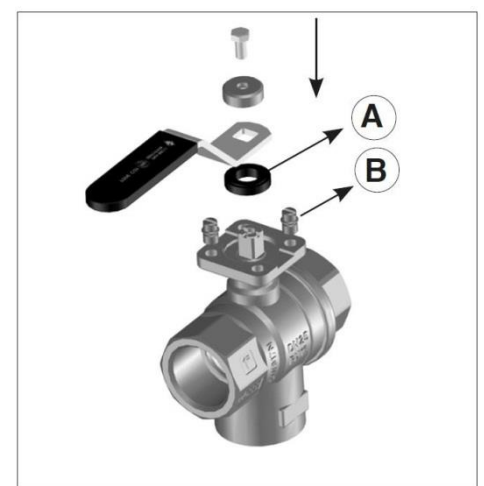

FIG. 3
- The ability to install the control lever in various positions (fig. 3) allows the flow to be diverted to achieve the various configurations shown in the diagrams below.
- Position the anti-friction seal (A) and the lever on the valve stem (Fig. 3).
- Move the valve as required, inserting the pins (B) in the two end stop positions on the lever itself.
- Fasten the lever with the cap and screw supplied (Fig. 3).